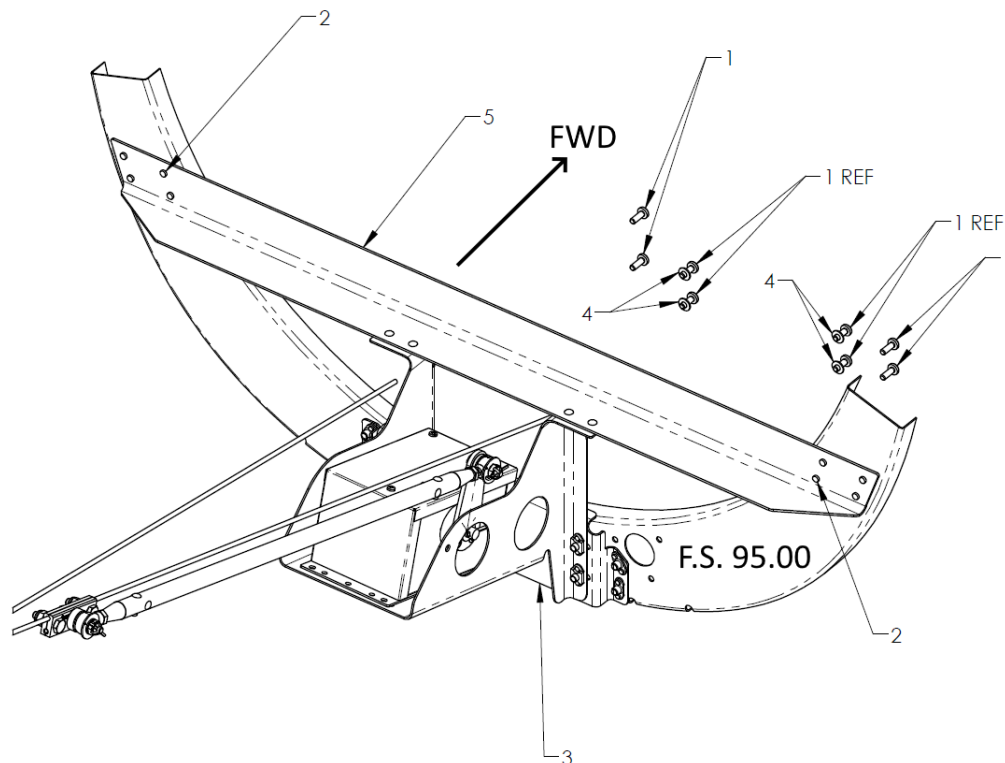

FIGURE B- 2 PITCH SERVO INSTALLATION
1. Install the assembled pitch servo onto the bracket with the servo arm facing up and towards the RH side of the aircraft. Refer to Figures B-2 & Illustrated Parts Catalog Document # 1006907.
6. Clamp the 1006235 bracket to the 1006236 angle piece and to F.S. 95.00. Refer to Figure B-2.